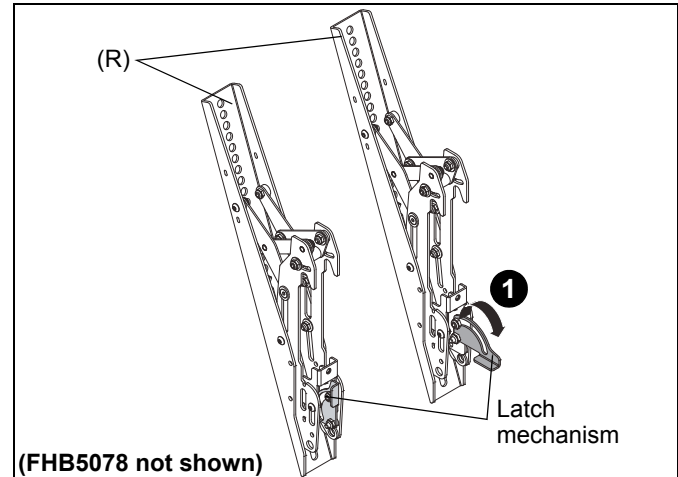

Figure 15
**IMPORTANT !** : If installing displays with mounting patterns larger than 400mm, first install the FHB5780 interface adapters following instructions included with the FHB5780 kit (DD).
- Lower the latch mechanism on each interface bracket (R). (See Figure 15)
1. Ensure that the latch mechanisms on interface brackets (R) are already lowered. (See Figure 15)